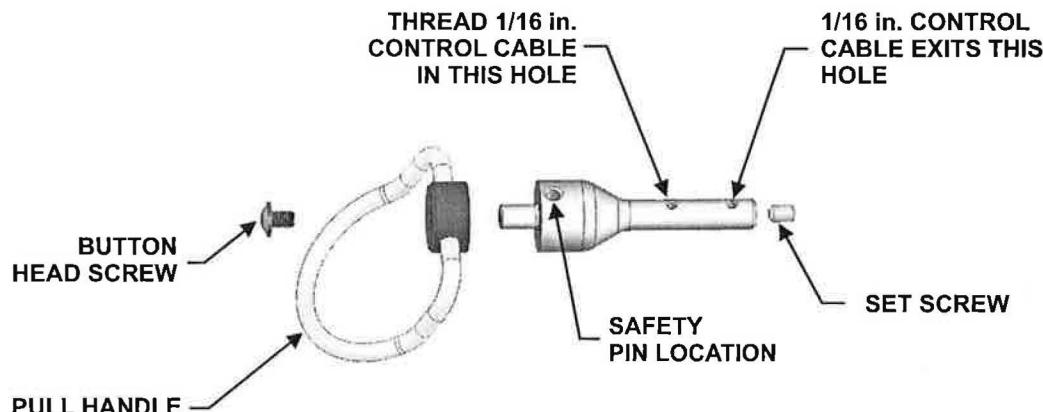

Figure 4-57. Remote Manual Release Pull Station Handle Assembly
7. Thread the detection line cable through the hole closest to the Handle Assembly. Loop the cable around and through the other open hole. See Figure 4-57.